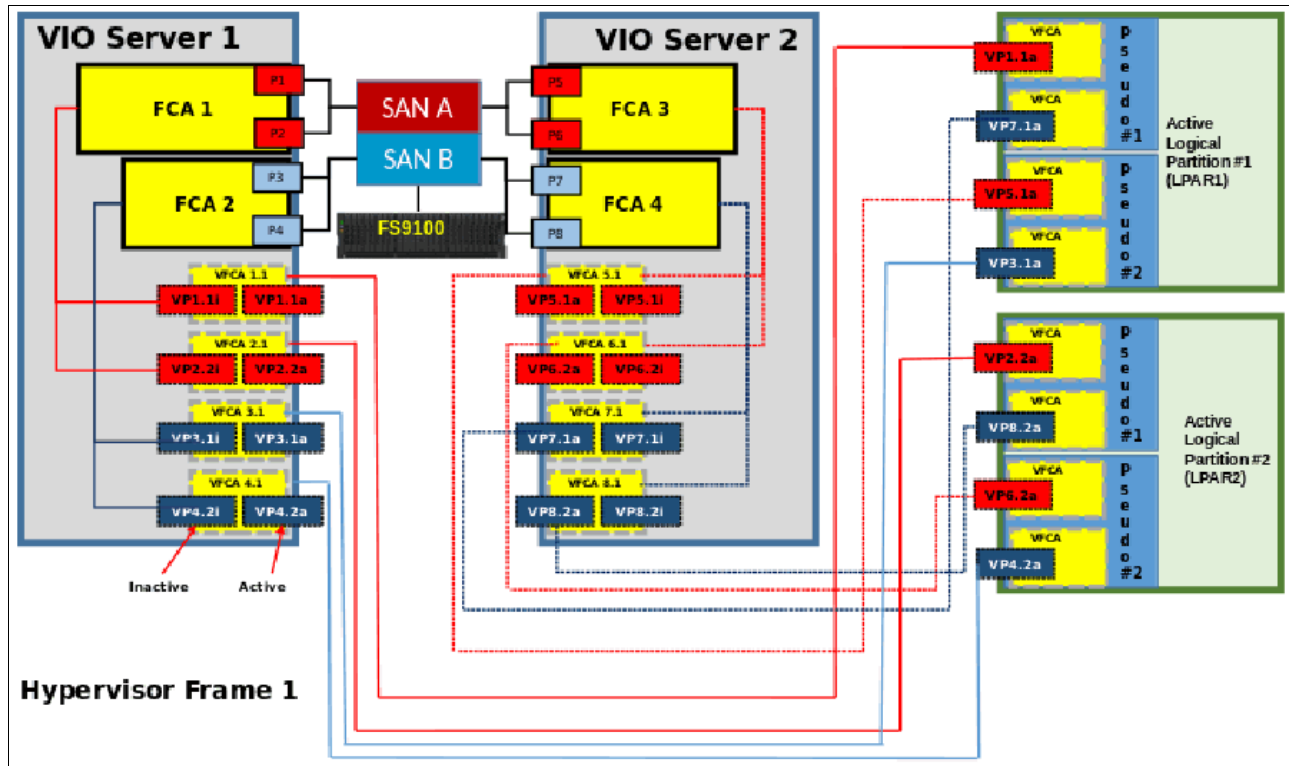

Figure 2-30 LPARs SAN connections
- Create a pseudo host in IBM Spectrum Virtualize host definitions that contain only two virtual WWPNs (one from each fabric), as shown in Figure 2-30.
Figure 2-30 shows a correct SAN connection and zoning for LPARs.